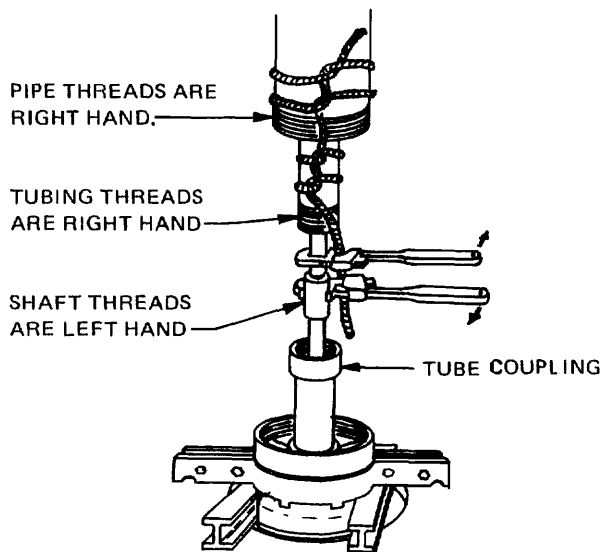

FIG. 4 – ASSEMBLING SHAFTING AND TUBING
5. Swing the column assembly over the bowl, align the shaft, remove the rag from the shaft coupling on the bowl and lower the column assembly until the shaft contacts the coupling, oil the shaft threads then remove the rope. Hold the coupling and turn the shaft by hand (left hand threads) until the shaft ends butt. **DO NOT FORCE THE SHAFT INTO THE COUPLING.** If the shaft will not screw into the coupling by hand, the threads are either damaged or dirty, or the shafts are not properly aligned. This procedure must be corrected before proceeding. Place one pipe wrench on the coupling and one on the top piece shaft and tighten. Both wrenches should be handled by one man so that the push on one wrench will be balanced by the pull on the other wrench. SEE FIG. 4. The shafts should show equal amounts of threads above and below the coupling indicating that the shaft butt is centered in the coupling. Remove any wrench marks from the shaft and the coupling with a flat file and emery cloth. Cover the shaft tube opening with a rag to prevent the metal filings from falling on bearings below.